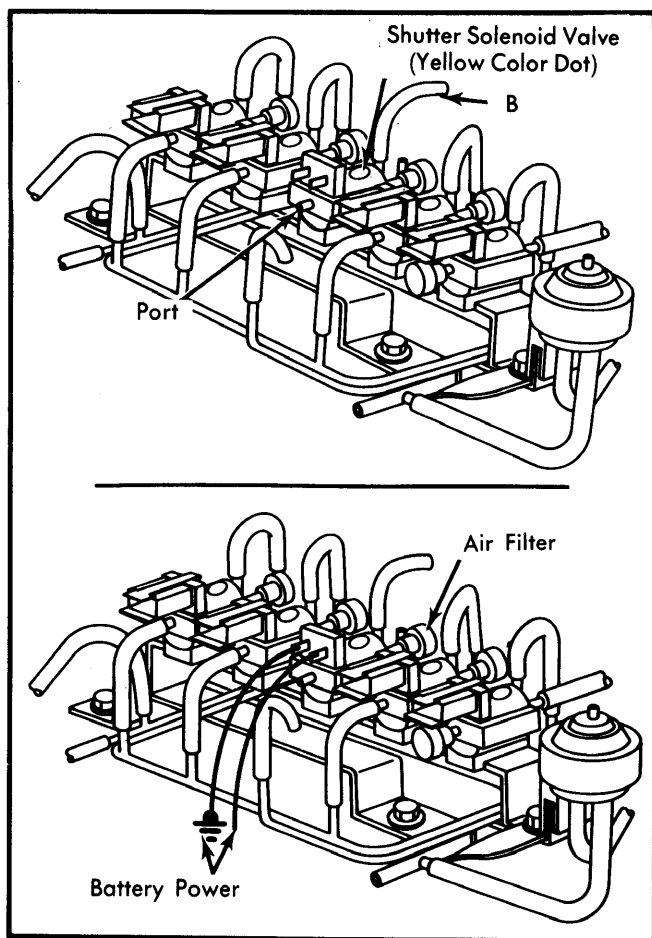

Fig. 3 Testing Shutter Solenoid Valve
1) Disconnect vacuum sensing tubes from shutter solenoid valve (Yellow color dot). Blow through solenoid valve through vacuum hose "B" shown in Fig. 3; air should go through valve and escape at front port.